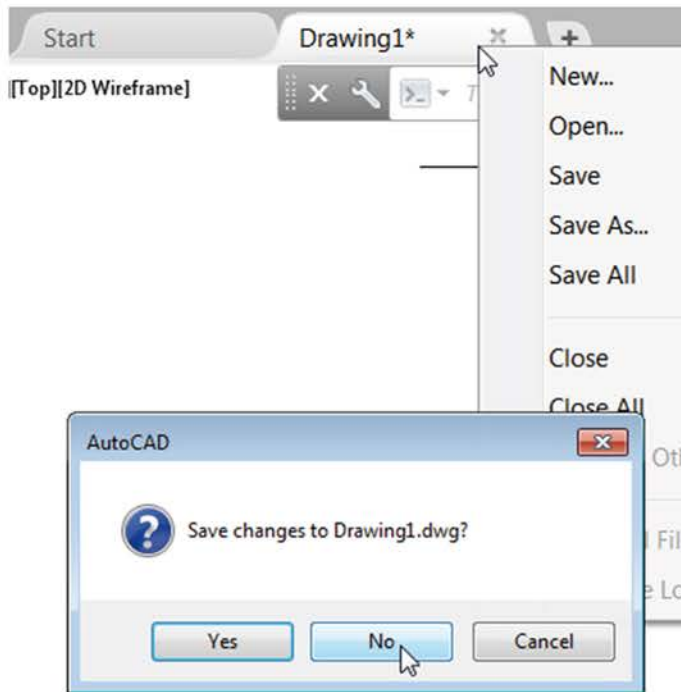

Fig. 3.5 The AutoCAD warning window
2. The warning window (Fig. 3.5) appears in the centre of the screen. *Click* its **No** button.